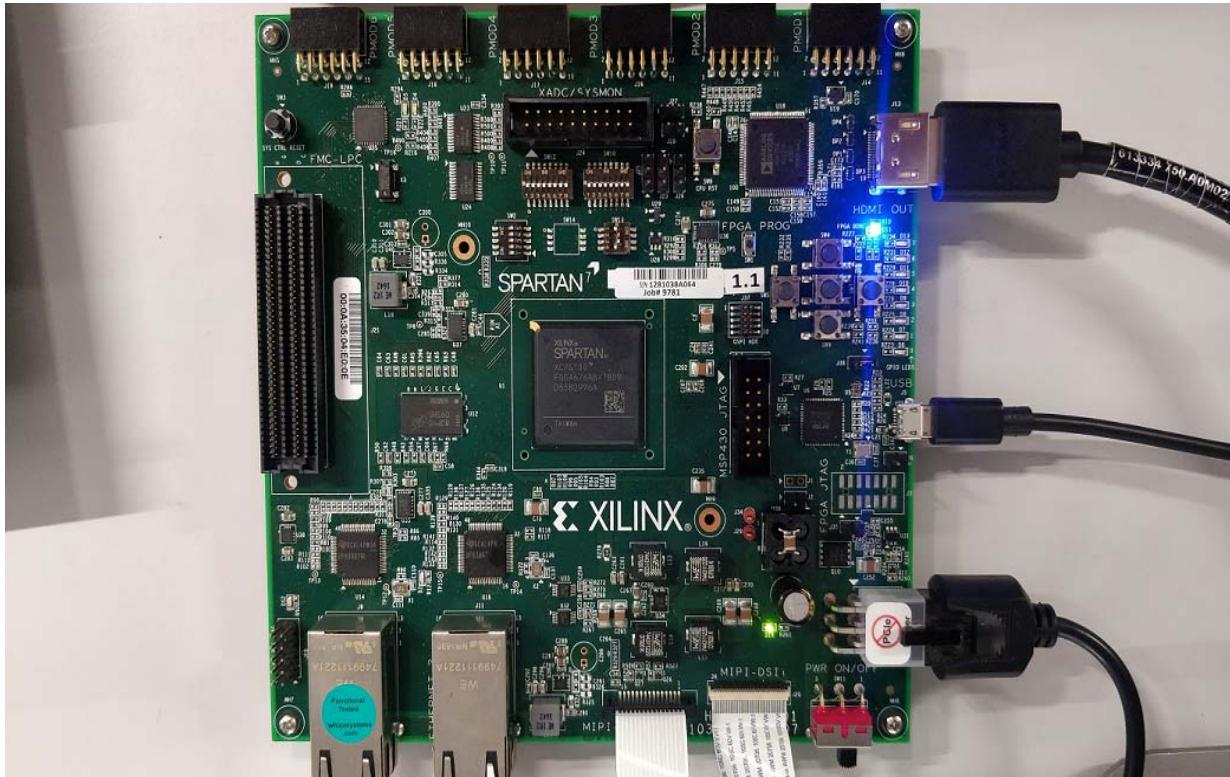

Figure 5-8: SP701 Board
- b. Connect the HDMI cable to the SP701 HDMI OUT port (Figure 5-8).
- f. Ensure the board switches and jumpers are in position as shown in Figure 5-8.